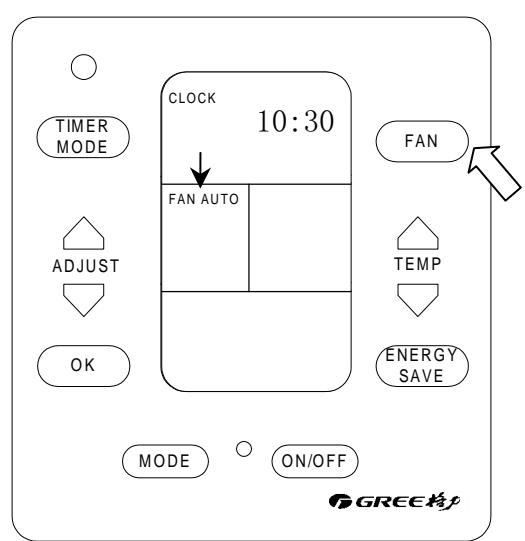

Fig.9: set the **FAN AUTO**.
**(3) FAN CONTROL**
- ❖ When set to **FAN AUTO**: (Fig.9)